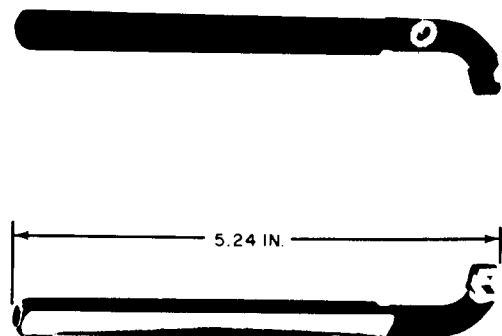

Fig. 12—711A Adjuster Tool
2.13 711A: The 711A tool (Fig. 12) is an adjuster used in adjusting the card support tab on vertical units of the 324-, 325-, and 328-type crossbar switches.